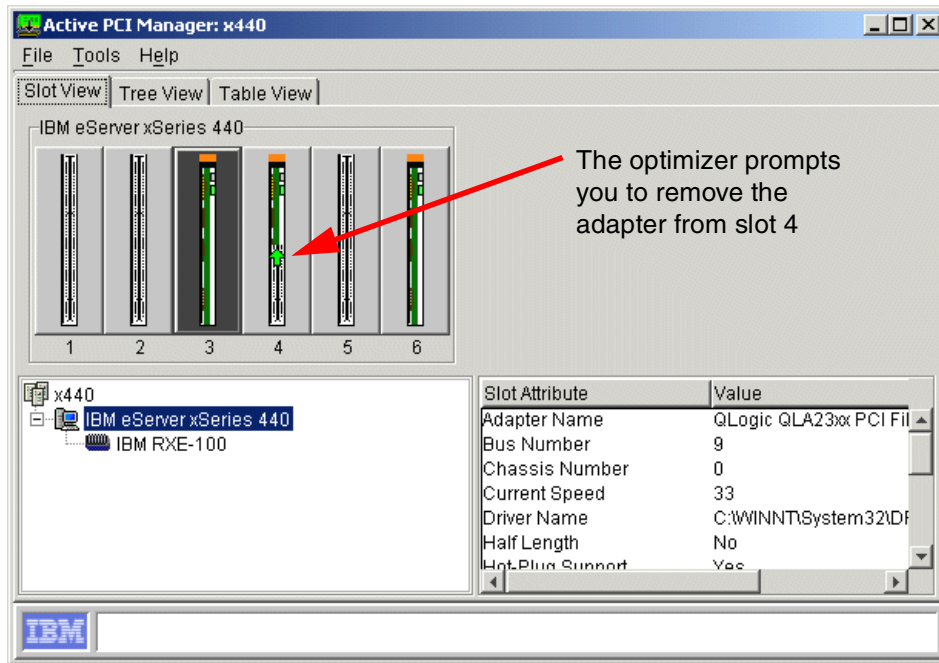

Figure 5-18 Removing an adapter from slot 4
1. Click the link on the line **Eject and Remove** the adapter. Figure 5-18 on page 147 appears indicating with an arrow the adapter to remove.